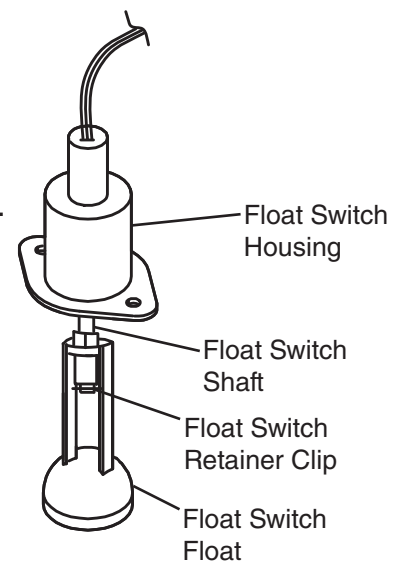

Fig. 7
- 6) Remove the retainer clip from FS shaft, then remove the float. Be careful not to damage or lose the retaining clip when removing it. See Fig. 7.